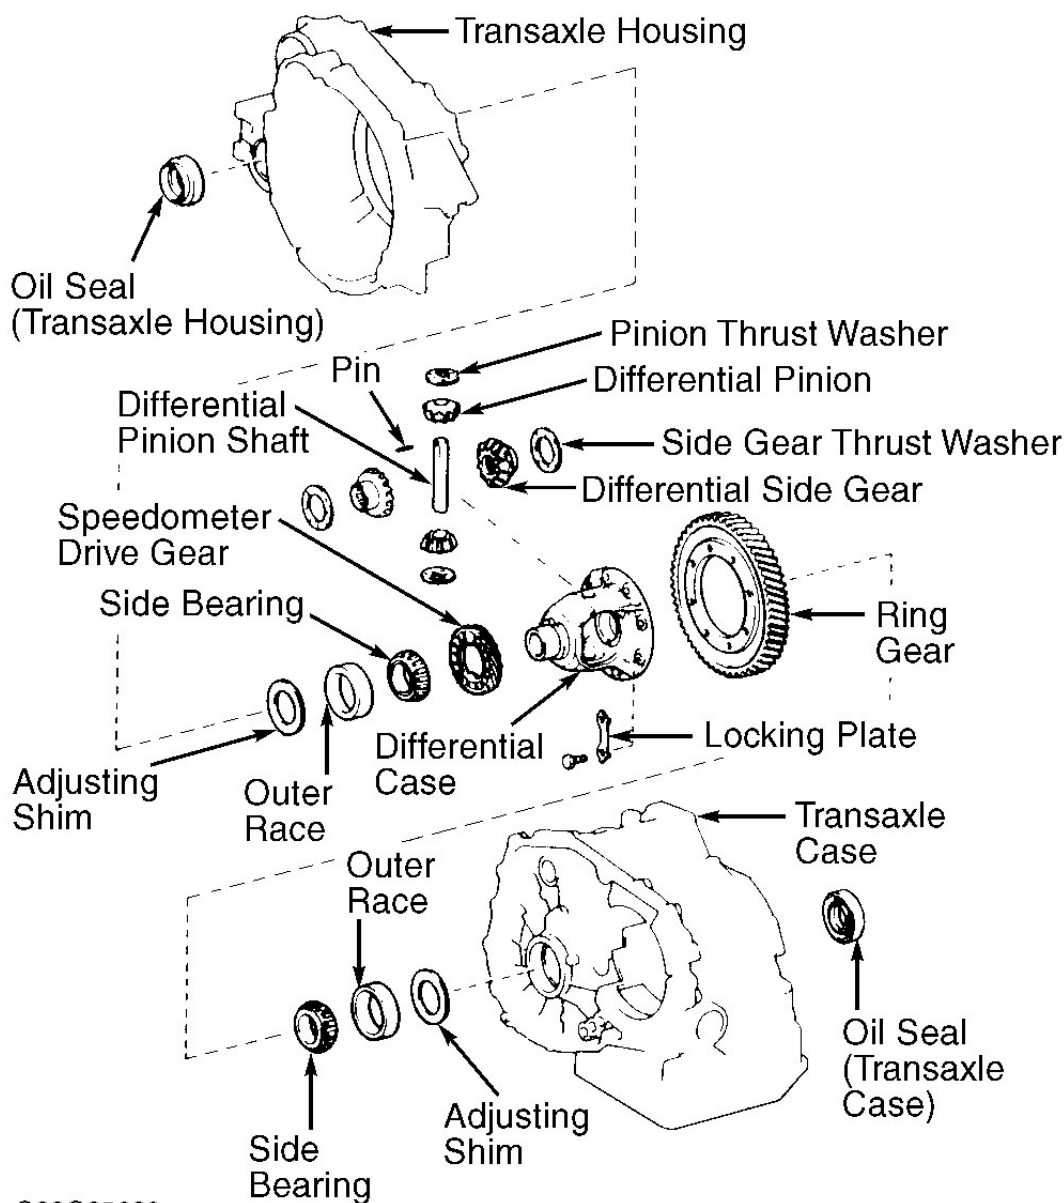

Fig. 50: Exploded View Of Differential Assembly
3. Drive out pinion shaft lock pin from ring gear side. Remove pinion shaft, pinion gears, side gears, and thrust washers. See **Fig. 50**. Using a long screwdriver, remove oil seals from transaxle housing and transaxle case.